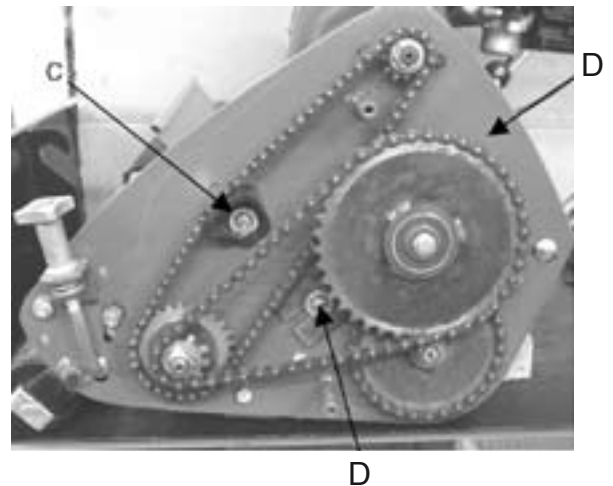

Figure 8. Drive chains.
1. Loosen the locknut (C) Figure 8.
2. Slide the nylon chain adjuster against the chain to allow 6mm of up and down movement of the chain Figure 8.
3. Re-tighten the locknut (C) Figure 8.
1. Loosen the two locknuts (D) Figure 8.
3. Retighten the locknuts (D) Figure 8.